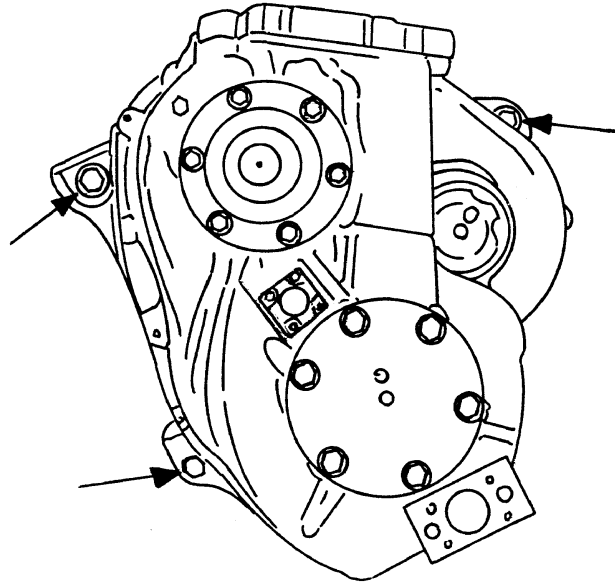

Fig. 7C.60. Securing the Transmission to the Rear Main Frame
8. Install the transmission universal joint (3, Fig. 7C.61) between the torque converter and transmission. Secure the universal joint to the drive yoke and to the torque converter output flange. Torque the bolts to $270 \pm 7\%$ [Nm].
9. Install the scavenge and pilot pump (5, Fig. 7C.61) on the torque converter. Refer to SECTION 10A, PUMPS for this procedure.
10. Reconnect lube hose (6) to the transmission (1).